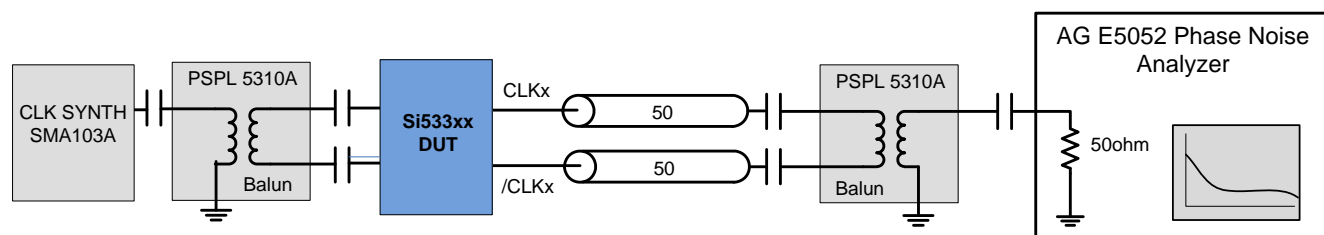

Figure 1. Differential Measurement Method Using a Balun
3. Measured differentially using a balun at the phase noise analyzer input. See Figure 1.
3. Measured differentially using a balun at the phase noise analyzer input (see Figure 1).
Total Jitter (Diff'I): Combined source and clock buffer phase noise measured as a differential output to the phase noise analyzer and integrated from 12 kHz to 20 MHz. The differential measurement as shown in each figure is made using a balun. See Figure 1 on page 7.